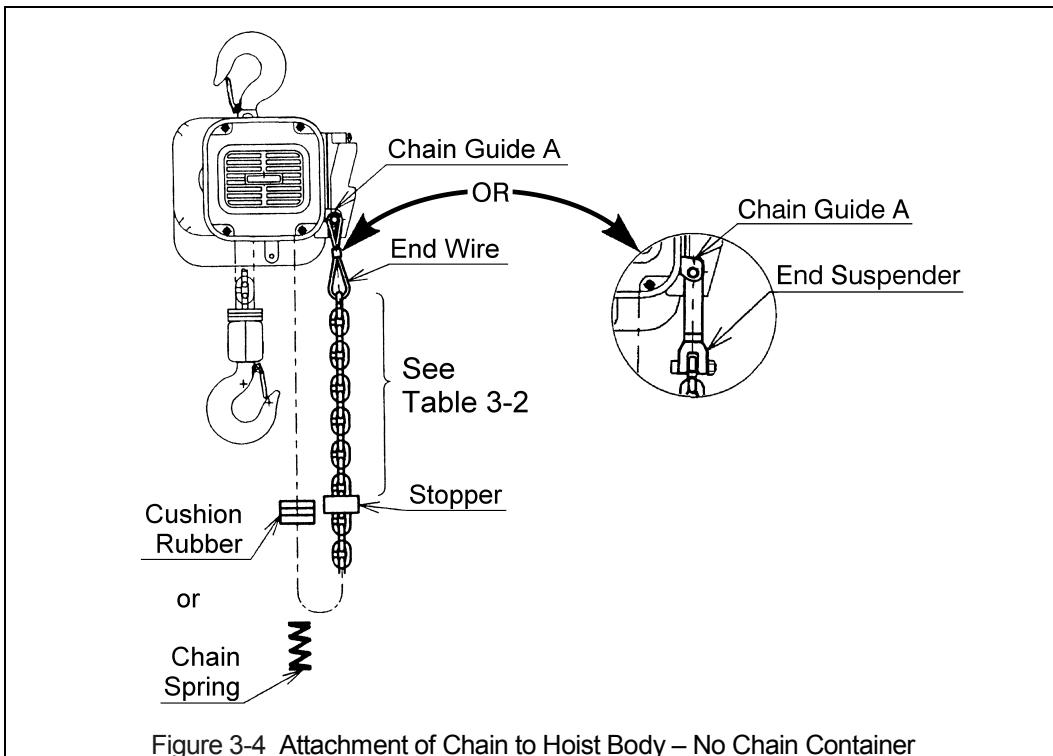

Figure 3-4 Attachment of Chain to Hoist Body – No Chain Container
- 3.2.2 When the hoist is used without a chain container, the free end of the chain is attached to the hoist body as shown in Figure 3-4. Connect the no load end of the chain to Chain Guide A with the End Wire or End Suspender provided. For 5 Ton hoists, connect the no load end of the chain directly to Chain Guide A if Chain Guide A is notched to accept the chain. Make sure the chain remains free of twists and the chain Stopper is installed on the correct link. Refer to Table 3-2 for proper placement of Stopper.